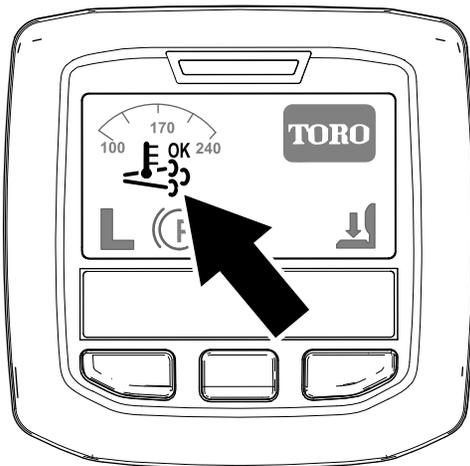

Figure 25
- The assist/reset-regeneration icon displays in the InfoCenter (Figure 25).